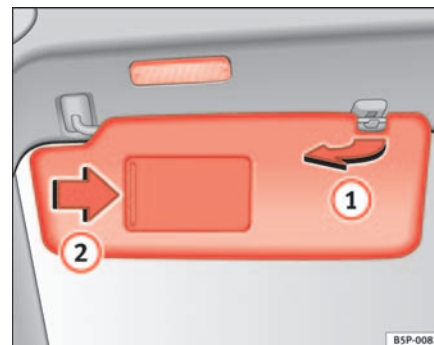

Fig. 83 Sun visor on the
The sun visors for the driver and the front passenger can be pulled out of their mountings in the centre of the vehicle and turned towards the doors ⇒ fig. 83 ①.